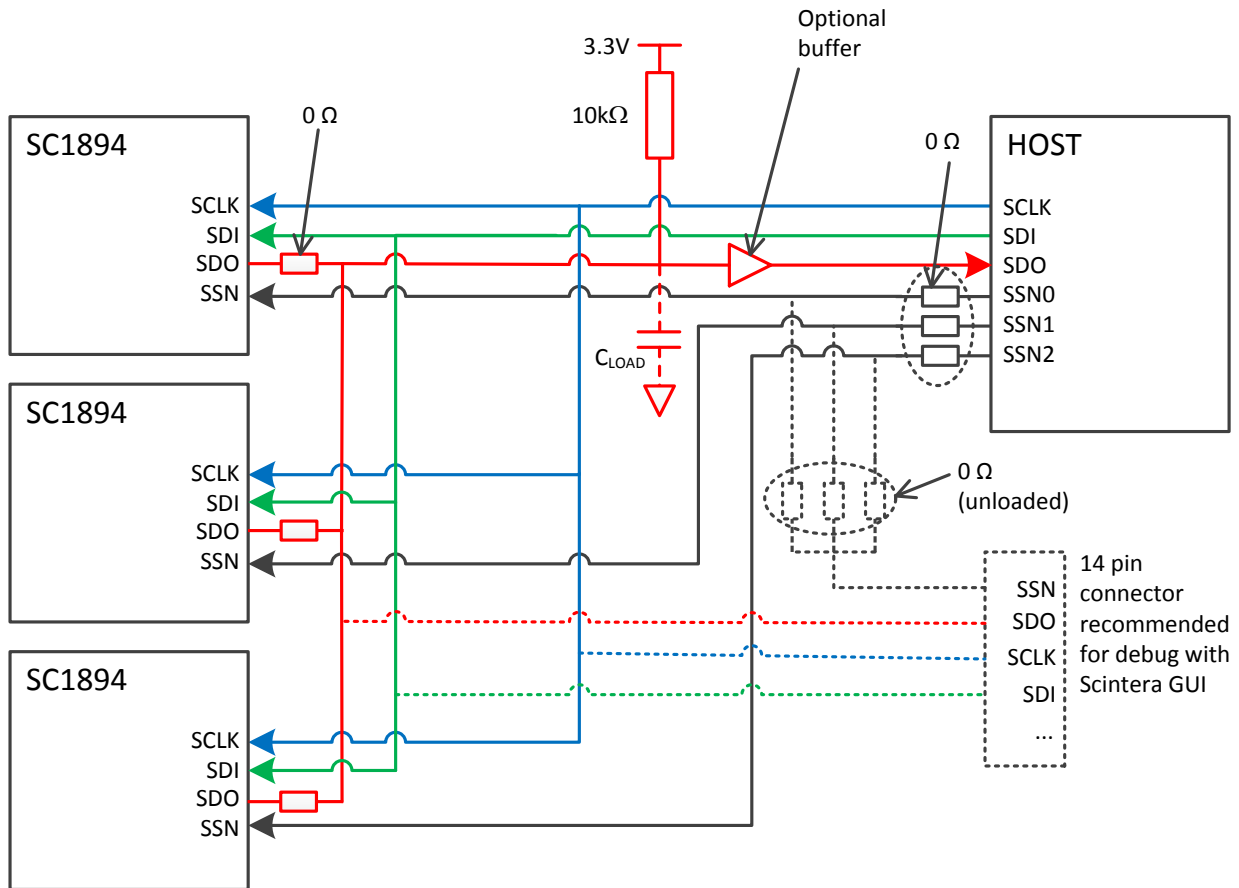

Figure 26. Host SPI connection for multiple SC1894 applications.
The SDI, SDO and SCLK signals can be shared amongst several SC1894 (Figure 26). One SSN per SC1894 is needed to communicate with a single linearizer. Special care must be taken when connecting long PCB traces at the SDO output since the capacitance (C_{LOAD}) increases. Refer to section 10.2.6 to calculate the maximum speed at which the SDO pins can be read (including the parasitic load capacitance C_{LOAD}).
The GUI can support only one RFPAL. Therefore, for multi-RFPAL applications it is suggested to include layout provisions for a series 0Ω resistors in the SDO line of each RFPAL as shown in Figure 26 and connect this component only for the SC1894 being tested to avoid any conflict with the inactive SC1894 while working with the GUI.
- b. If an SDO buffer is needed, the buffer must be placed after the point (a) as described in Figure 26.